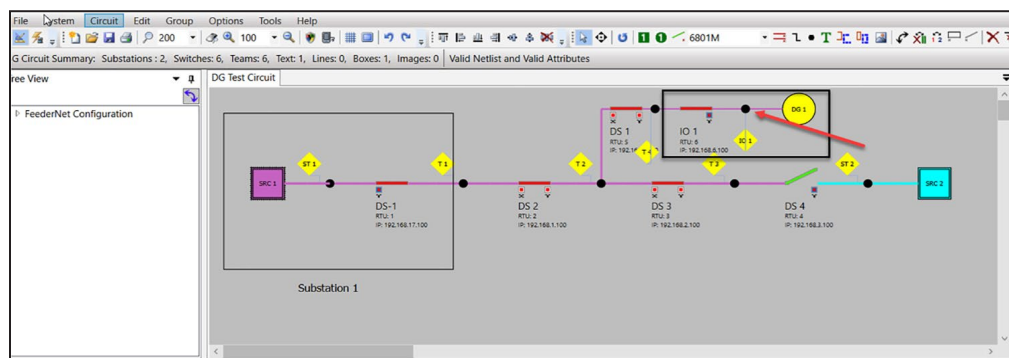

Figure 2. Tying a distributed generation device to the device using the IntelliTeam system.
STEP 3. Tie the distributed generation device to an IntelliTeam system device (e.g. IntelliRupter fault interrupter, 6800 Series Automatic Switch Control, IntelliNode™ Interface Module, or IntelliNode/Info-Only device) by connecting them with a wire, as shown in Figure 2.